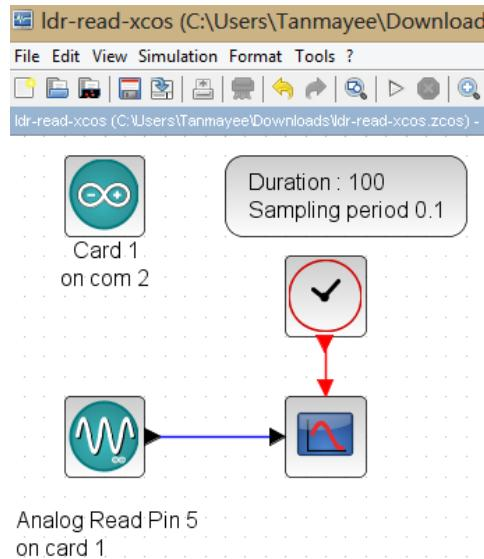

Figure 6.4: Xcos diagram to read LDR values. This is what one sees when `origin/user-code/ldr/scilab/ldr-read.xcos`, see Footnote 2 on page 2, is invoked.
1. The Xcos diagram in Fig. 6.4 performs data acquisition from analog pin 5 and displays the read values on the scope. When the file required for this experiment is invoked, one gets the GUI as in Fig. 6.4. In the caption of this figure, one can see where to locate the file.